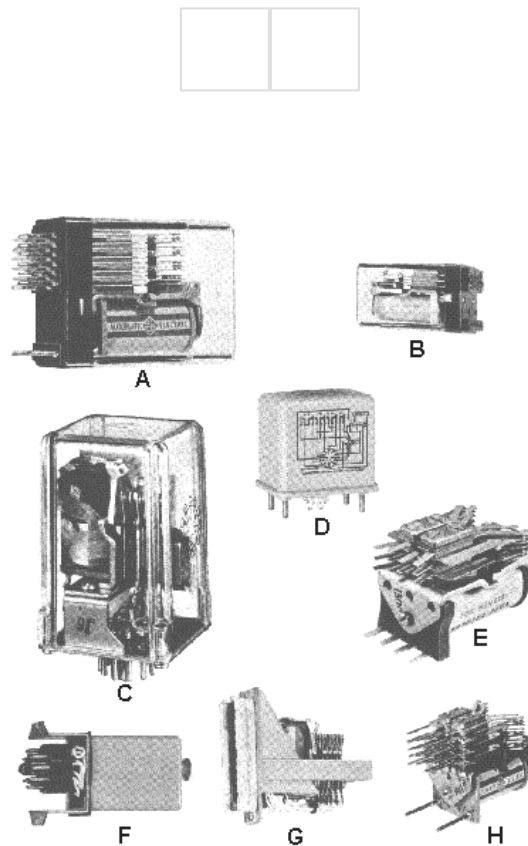

Figure 3-24.—Relay enclosures.
Relays can be described by the method of packaging; open, semisealed, and sealed. Figure 3-24 shows several different relays and illustrates these three types of packaging.
Figure 3-24 (E), (G) and (H) are open relays. The mechanical motion of the contacts can be observed and the relays are easily available for maintenance. Figure 3-24 (A), (B) and (C) are semisealed relays. The
The clear plastic or glass covers provide a means of observing the operation of the relay without removal of the cover. Figure 3-24 (D) and (F) are examples of a hermetically sealed relay. These relays are protected from temperature or humidity changes as well as dust and other foreign material. Since the covers cannot be removed, the relays are also considered to be tamper-proof. With metal or other opaque covers, the operation of the relay can be "felt" by placing your finger on the cover and activating the relay.